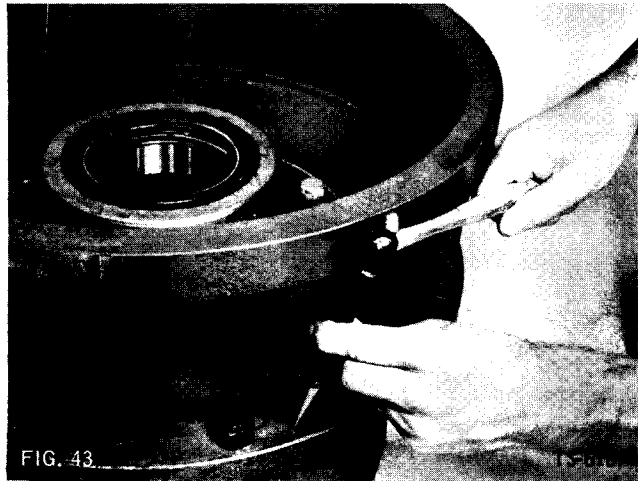

FIG. 43
1. Match-mark hub and drum to insure proper reassembly (Fig. 43).